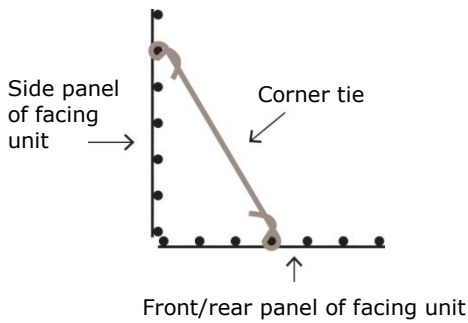

Figure 3 – Plan view of corner tie location
18. Hook each pre-formed corner tie 3 mesh apertures in from the corner around a mesh joint intersection on the face and rear panel. Diagonally brace to the side panels 5 meshes back and rotate the free end around a mesh joint intersection, wrapping around to secure by twisting the return end over its own stem (refer to Figures 3 & 4).